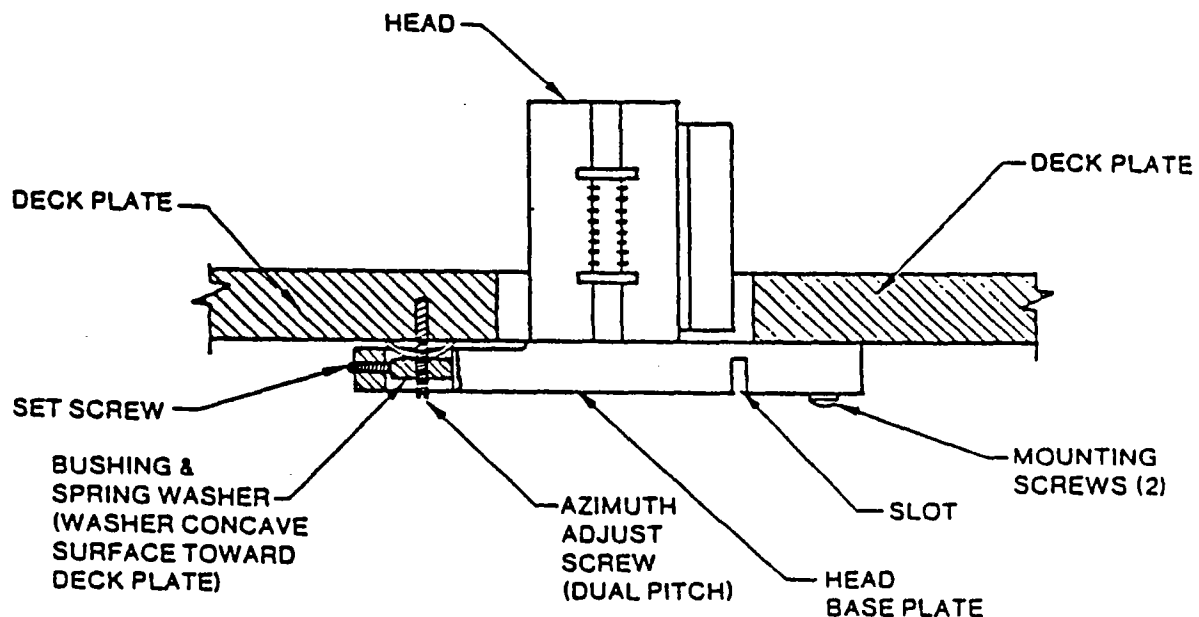

Figure 5-17. Read-Write Head
4. Remove head assembly. Refer to Figure 5-17. The azimuth adjust screw, bushing, and spring washer remain on the deck plate. If the screw or bushing are moved, adjust them as follows. Otherwise, go to step 9.